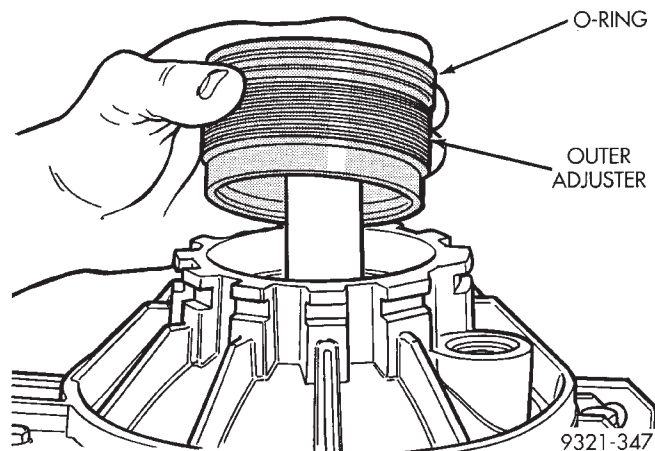

Fig. 269 Outer Adjuster Installation
(28) Screw on outer adjuster and tighten adjuster down finger tight (Fig. 269).